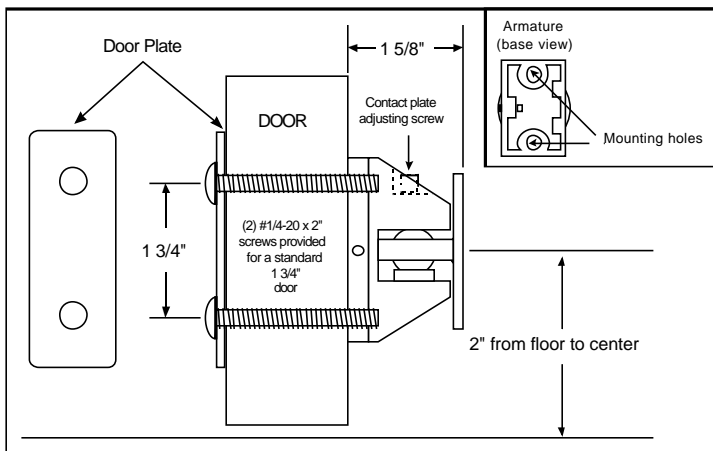

Figure 6. Thru-Bolt Mounting
- Using a 5/32" Allen wrench, turn the contact plate adjusting screw (Figures 6 and 7) counterclockwise to loosen the contact plate.
- Thru-bolt mounting (Figure 6).** Center punch the two holes (at the points marked in step 3) and drill 5/16" diameter through the door. Distance between the center points should equal 1-3/4".
Secure the armature assembly, with the contact plate adjusting screw facing up, to the door as shown in Figure 6 or 7 using (2) #1/4-20 x 2" screws (supplied).